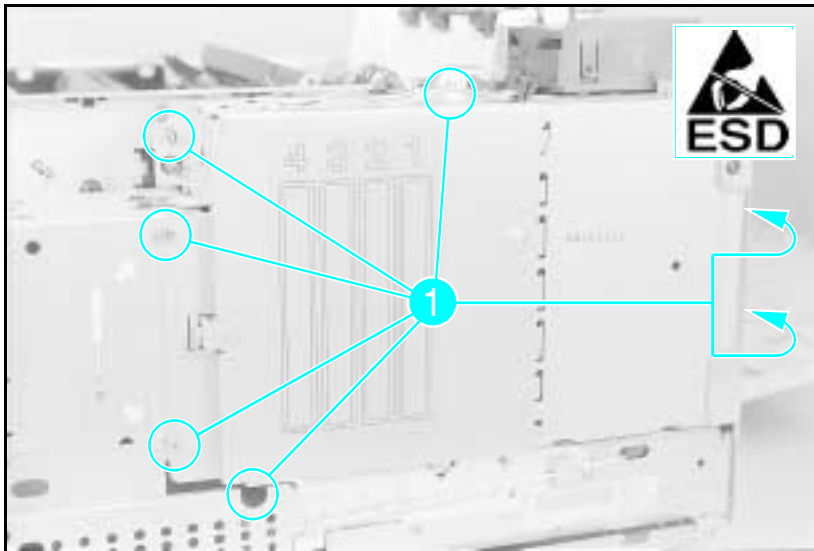

Figure 6-24a **Formatter Cage Screws (Right Side View - LaserJet 4 and 5)**
- 2 **LaserJet 4 and 5:** Remove the (7) screws (6 screws in the LJ 5) shown in Figure 6-24a. (2) screws are on the right rear of the printer, (1) screw is under the lower front of the Formatter Cage (except LJ 5).